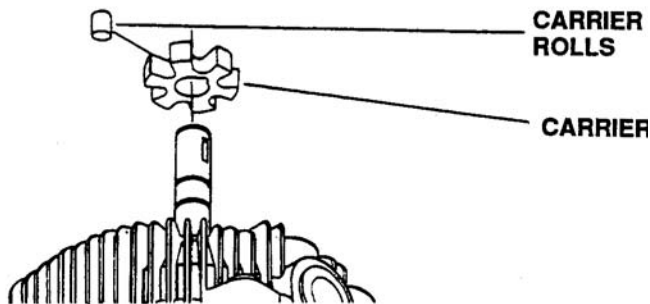

Figure 6-125. Installation of Carrier
11. Install carrier over input shaft with side marked up facing up. Be sure keyway in carrier fits over carrier drive pin in input shaft. See Figure 6-125.